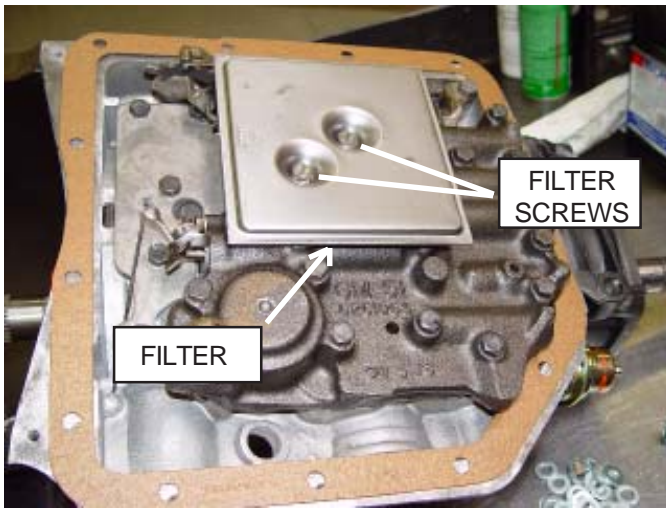

Figure 1
**STEP 2.** The oil filter will now be exposed (See Fig. 1). Use a screwdriver to remove two screws and remove the oil filter and filter gasket. Discard the filter and gasket.